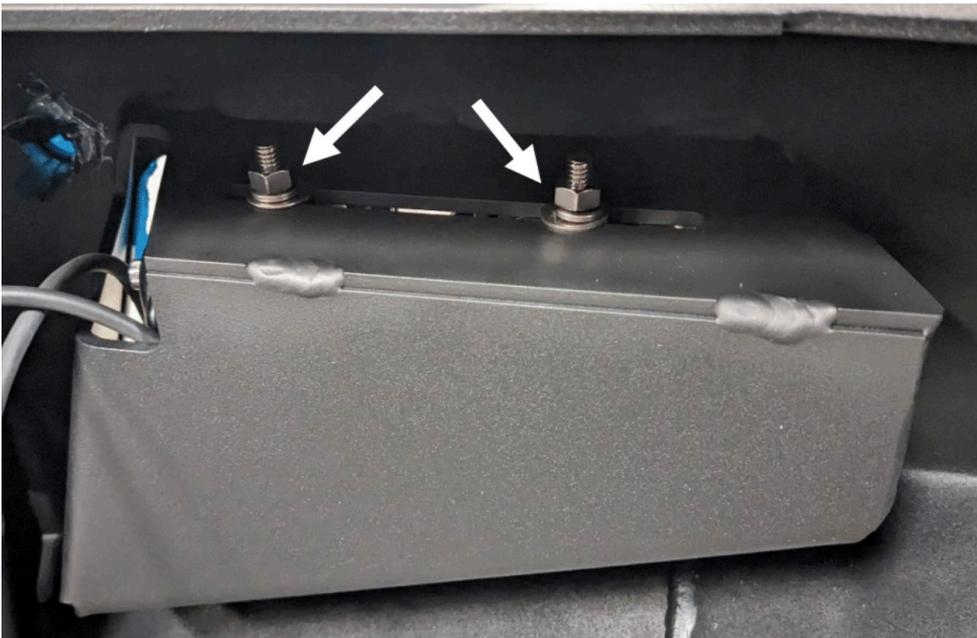

Figure 25
22. If applicable, install lighting using the lighting manufacturers provided hardware. (Figure 25)